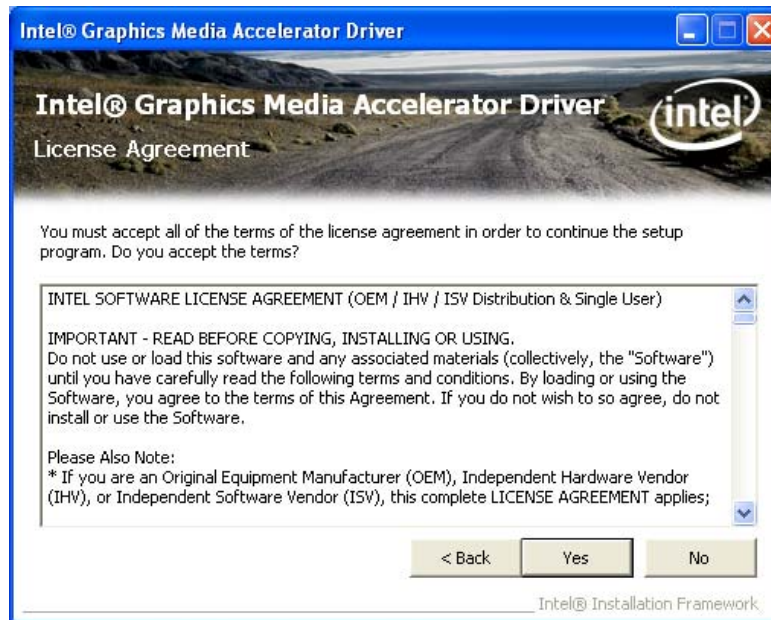

Figure 7-10: Graphics Driver License Agreement
Step 10: The **License Agreement** in Figure 7-10 appears.